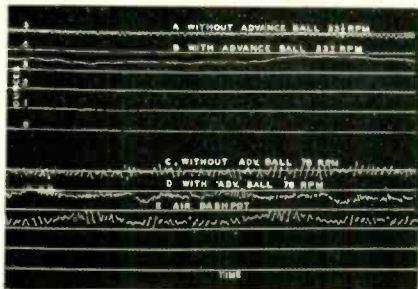

Fig. 9. Using an advance ball reduces the amplitude of oscillation, but introduces some irregular variations.
Since the dashpot had some disadvantages, an advance ball was tried. *Figures 9 (A)* and *(B)* show the cutting forces measured at 33 1/3 r.p.m. without and with the advance ball, and *Figs.*